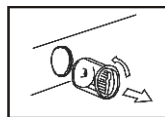

Fig. 2
- 2) Screw out filter by turning counterclockwise (Fig. 2);